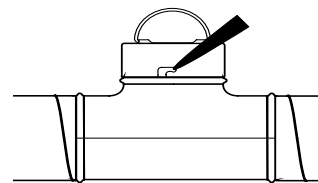

Fig. 2
2. Mark the holes for the rivets (Fig. 2).